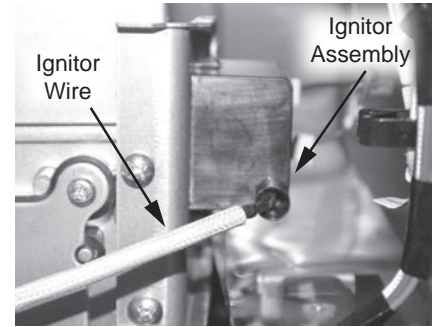

Figure 118 - Disconnecting ignitor wire
**6** Disconnect ignitor wire from ignitor assembly. See Figure 118.
**7** Locate the four screws securing the plate to the burner assembly. Remove the screws and place them aside in a safe place for reinstallation. See Figure 118.